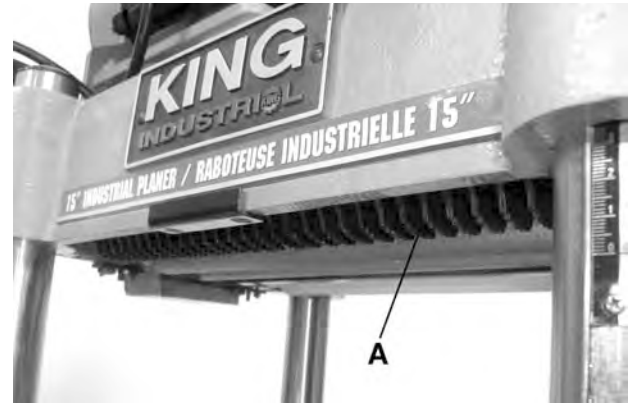

FIGURE 12
A series of anti-kickback fingers (A) Fig.12 are provided on the infeed end of the planer. These prevent kickback of workpiece during the planing operation. These anti-kickback fingers operate by gravity and no adjustment is required. It is necessary, however, to inspect them occasionally to make sure they are free of gum and pitch and that they move independently and operate correctly.